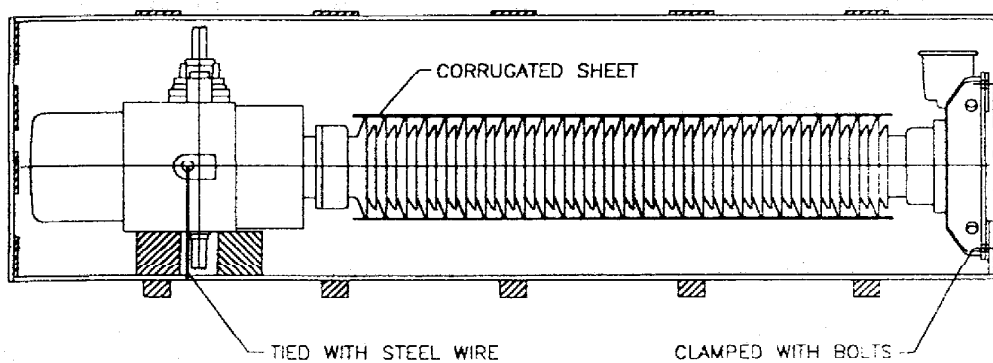

FIG. 6
- Please refer to fig. 6 and follow the instructions given therein correctly.